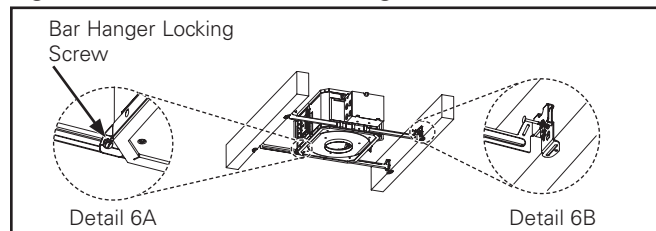

Figure 6.
1. Extend bar hangers to fit between joist and position mounting tab locator lip tight to bottom of joist or framing member. Bar hangers should be level with bottom of joist or framing member. (Figure 6.)
2. Adjust housing platform position by sliding on bar hangers to desired position. Housing may be locked into position by tightening the two bar hanger locking screws on housing platform (Figure 6.) and (Detail 6A).